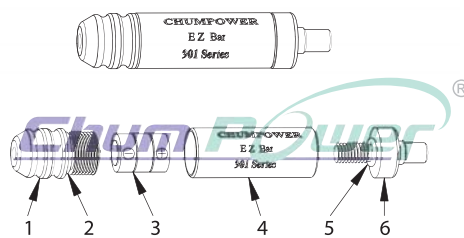

Fig. 3. Exploded drawing
Name of each parts (Fig. 3)
- After you confirmed as above, you can assemble the all parts according to Fig.3.